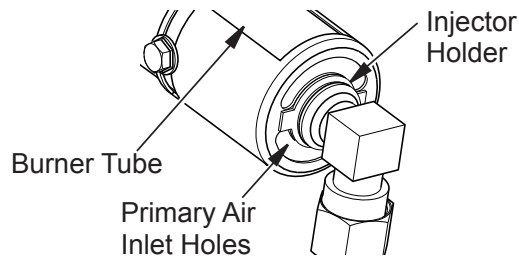

Figure 73 - Injector Holder On Outlet Burner Tube
2. Inspect burner, pilot and primary air inlet holes on injector holder for dust and dirt (see **Figure 73**).